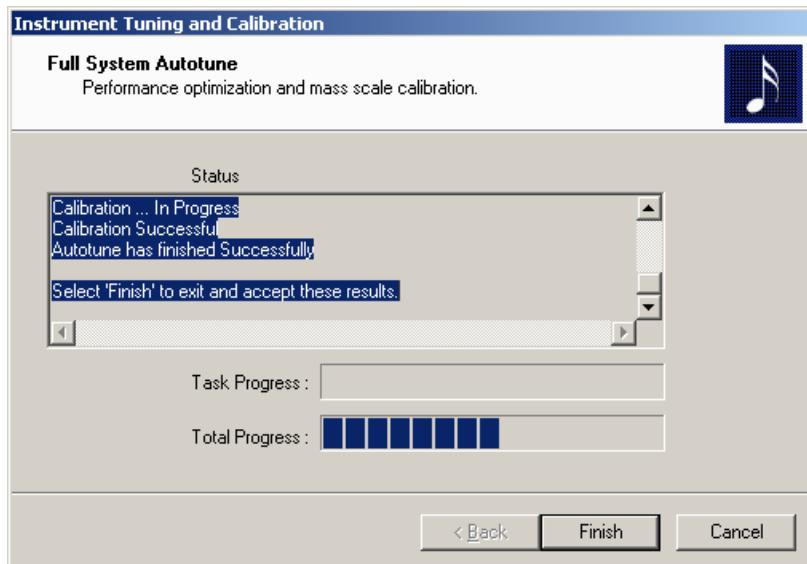

Figure 2-12. Instrument Tuning and Calibration window
- Select **Full System Autotune** and click on **Next** (see Figure 2-8, page 2-9). The tune/calibrate sequence will start, and its progress will be displayed in the Instrument Tuning and Calibration window (see Figure 2-12).